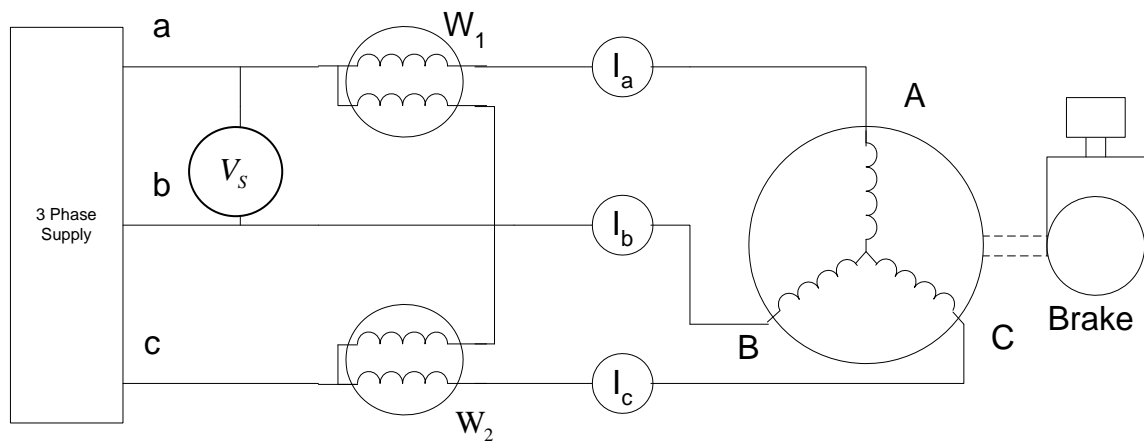

Figure 6. Schematic diagram for the blocked-rotor test
1. Connect the 3-phase induction motor as shown in figure 6. Make sure to keep the applied voltage zero at starting.